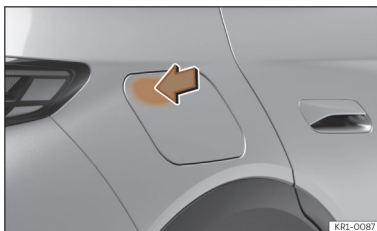

Fig. 55 Opening the charging socket cover.
- If the vehicle is unlocked, the battery charging cover opens when the zone with the arrow is pressed >>> **Fig. 55**.